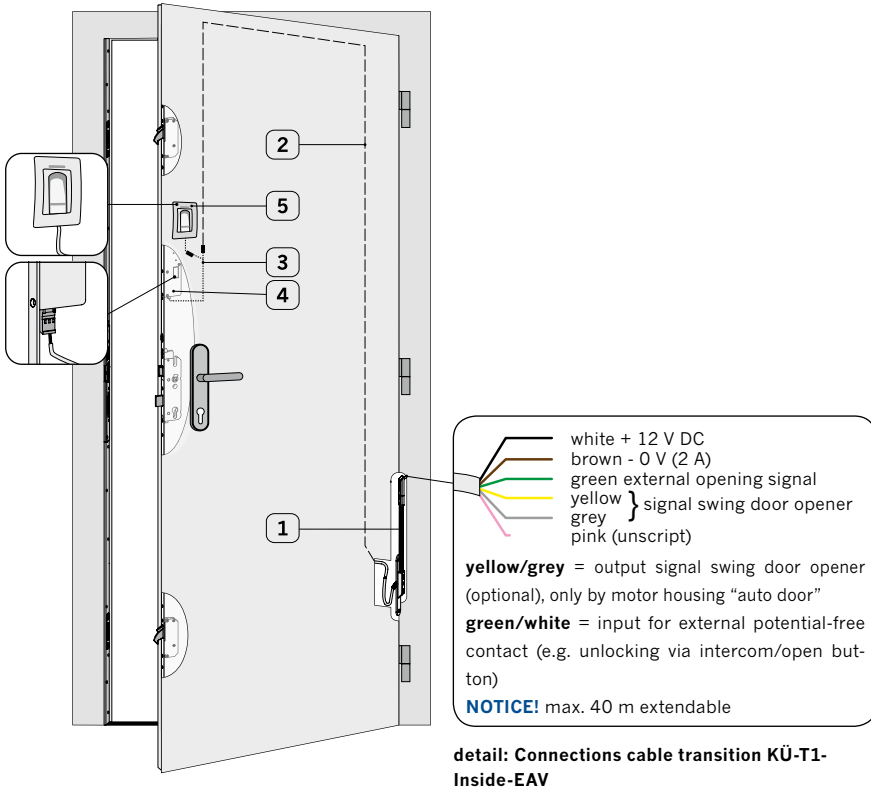

Figure 3.6.3-1: wiring blueMatic EAV and fingerprint IDENCOM BioKey INSIDE
- If parallel to the access control IDENCOM BioKey INSIDE another open signal (potential-free signal: e.g. “Open” button, intercom, ...) should be used for unlocking, then it is possible via the cable transition KÜ-T1-INSIDE-EAV **1** (see figure: 3.6.3-1, detail → connection green/white).